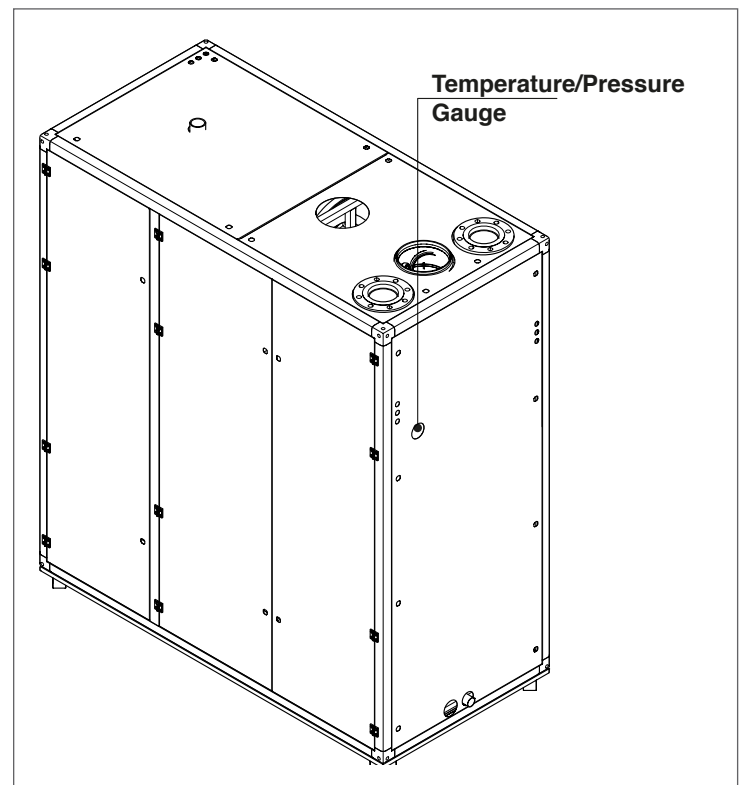

Fig. 41 Temperature/Pressure Gauge location
- Open the fill valve and proceed to fill the heating system and boiler until the pressure gauge (shown on Fig. 41), reads the pressure for which the heating system is sized. The heating system water pressure must be higher than 7.5 PSI.
Open the filling valve and check the pressure on the temperature/pressure gauge of Fig. 41.